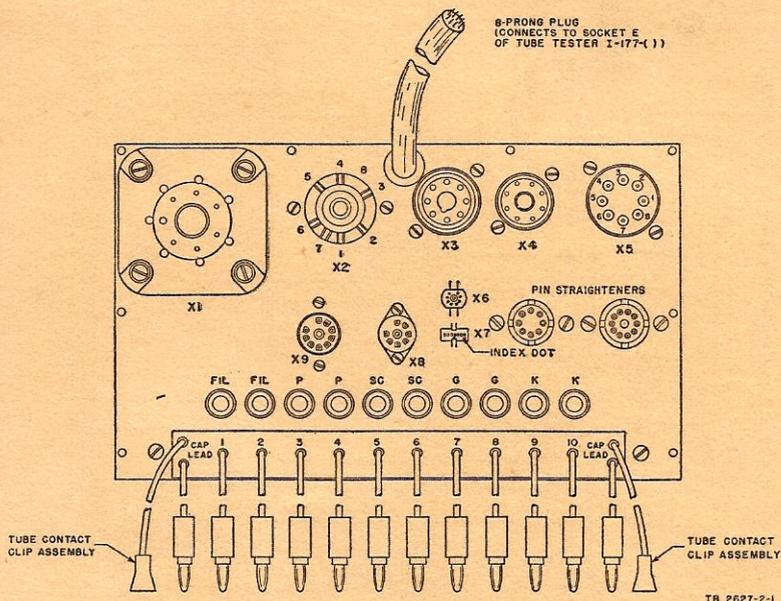

Figure 1. Tube Socket Adapter Kit MX-949/U, panel diagram.
b. This technical bulletin also covers the use of the Tube Socket Adapter Kit MX-949/U used with Tube Testers I-177, I-177-A, and I-177-B and lists the tube types (table III) that can be tested by means of the adapter kit. The purpose of the tube socket adapter kit (figs. 1 and 2) is to adapt the tube testers so that they can accommodate additional types of tubes. Tubes that have prongs which cannot fit into the tube sockets of the tube testers can be tested by means of Tube Socket Adapter Kit MX-949/U. The adapter kit replaces all improvised adapters.
3. TEST PROCEDURE USING TUBE SOCKET ADAPTER KIT MX-949/U (fig. 1). *a.* Adjustment of tube tester.